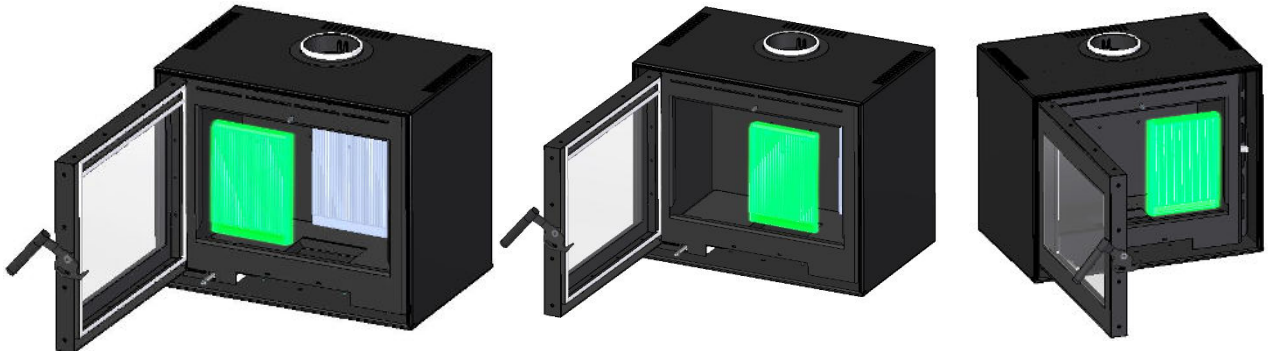

Figure 17 – Removal of the thermotote from the back of the equipment
5. Remove the 3 pieces from the back by moving to the front of the machine and then to the outside of the machine, see Figure 17.